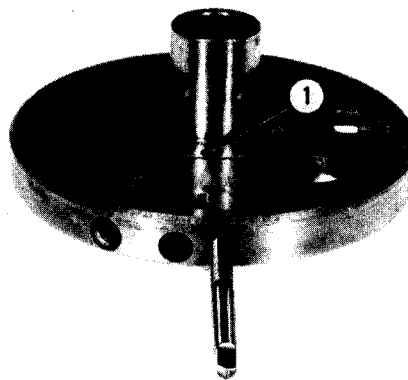

FIG. 4.58-SPIRAL PIN REMOVED
- a. Remove spiral pin, No. 1, Fig. 4.58.
- b. Using a tap as shown in Fig. 4.58, tap the hole in the valve bodies and use a bolt or puller to withdraw valve bodies from bores.